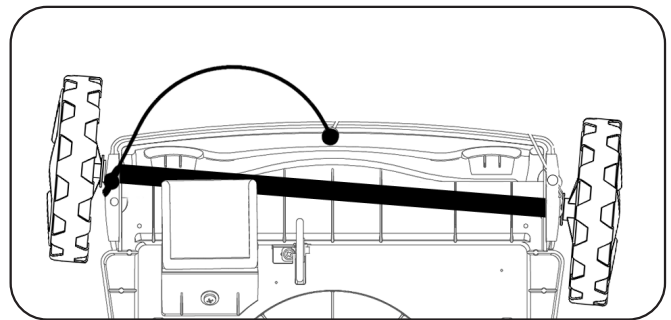

Figure 8. Change Wheel Turning Direction
1. Turn the cleaner upside down. Locate the wheel pins on the axle: one adjustable pin; one fixed pin (Figure 8).